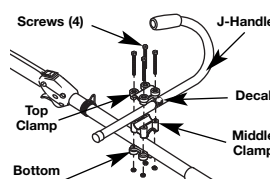

Fig. 5
2. Slide the J-handle in or out until the arrow/white line on the decal touches the clamp assembly (Fig. 5). You must first loosen the screws if the handle is pre-installed.